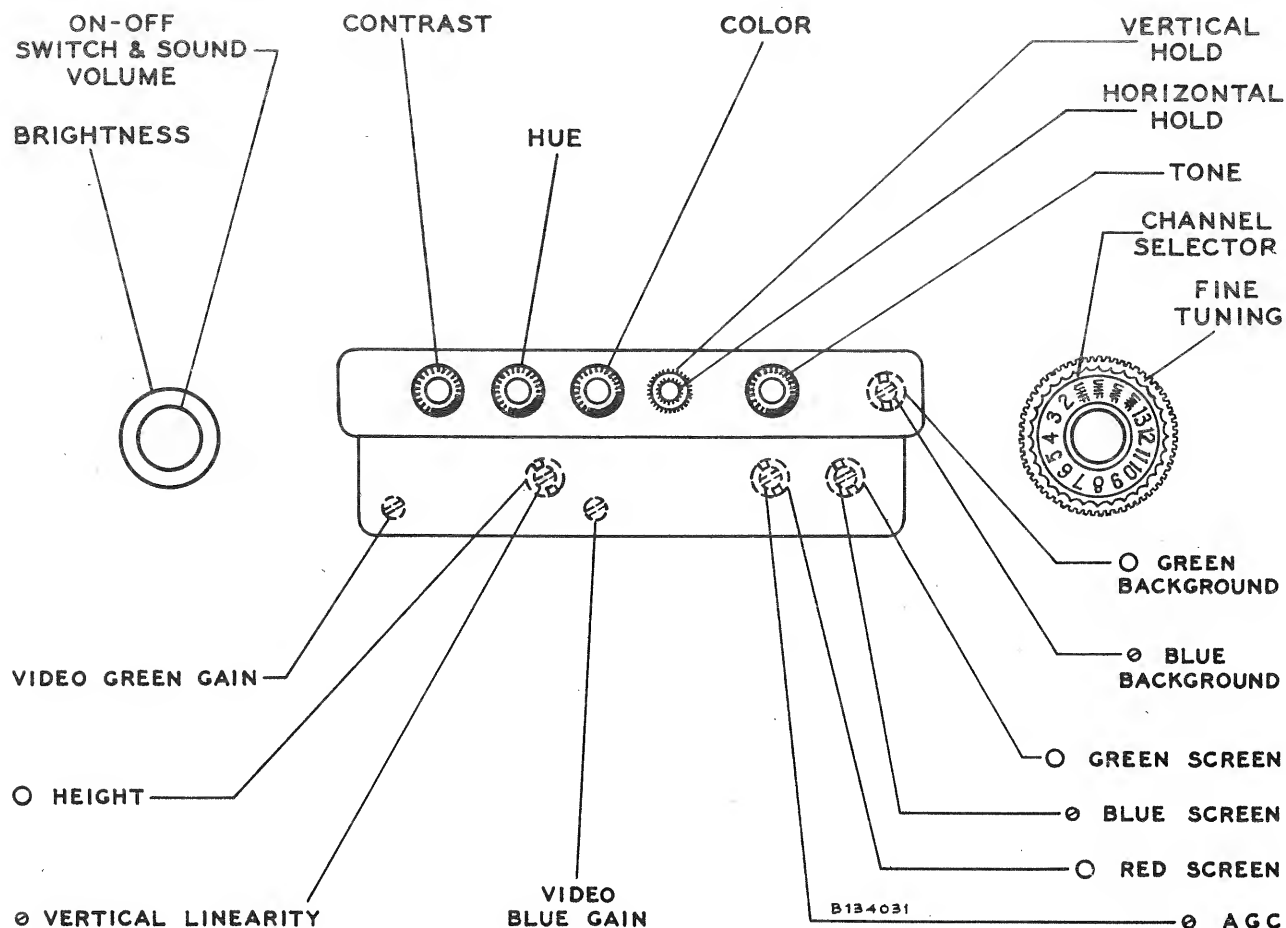

Figure 1—Operating Controls and Front Adjustments
Turn the AGC control counter-clockwise until the receiver operates normally and the picture can be synchronized. (Refer to figure 1 for adjustment location.)
**HEIGHT AND VERTICAL LINEARITY ADJUSTMENTS.**— Adjust the height control R282A and the Vertical Linearity Control R282B (controls under cabinet front panel—see figure 1), until the picture or test pattern is symmetrical from top to bottom. Make the final adjustment to overscan the mask by one-half inch at both top and bottom. Recheck the horizontal and vertical centering for correct positioning of the picture with respect to the mask.